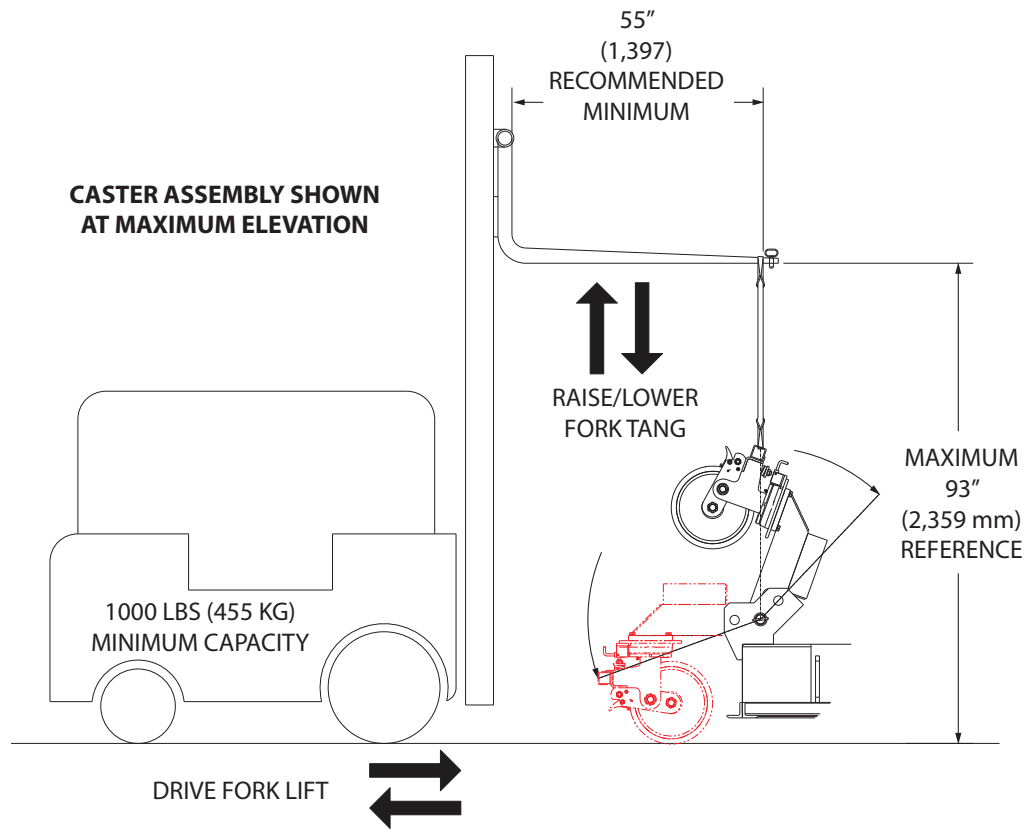
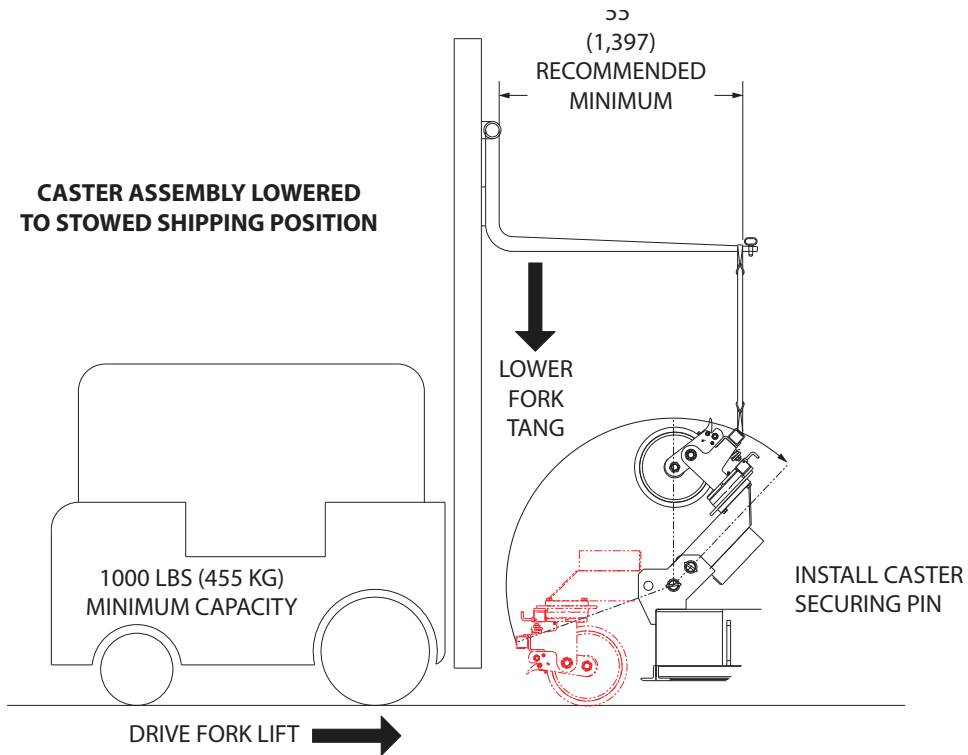

Figure 5.7-2
Figure 5.7-3
3. Once the caster assembly has reached the maximum elevation point, figure 5.7-2, move horizontally to move, the center of gravity of the assembly, over center to continue along the rotation path. Lower the forklift and continue to move horizontally towards the stand until the caster assembly comes to rest in the storage position, shown in figure 5.7-3.